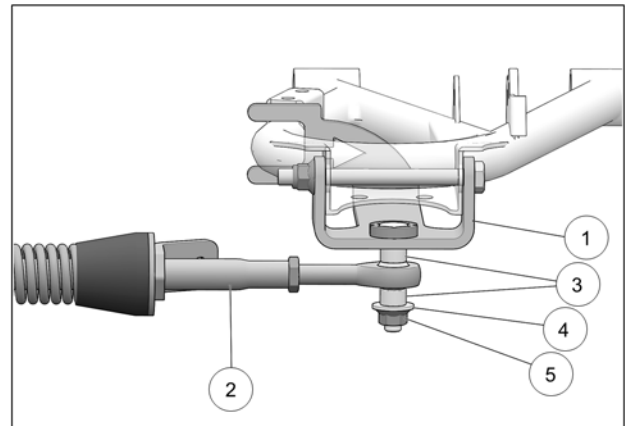

Fig. 12
11. Attach stabilizing rod (2) to anchor bracket (1), using the two spacers (3), washer (4), and nut (5). Torque to 70 N•m [52 lb•ft]. Refer to Fig. 12